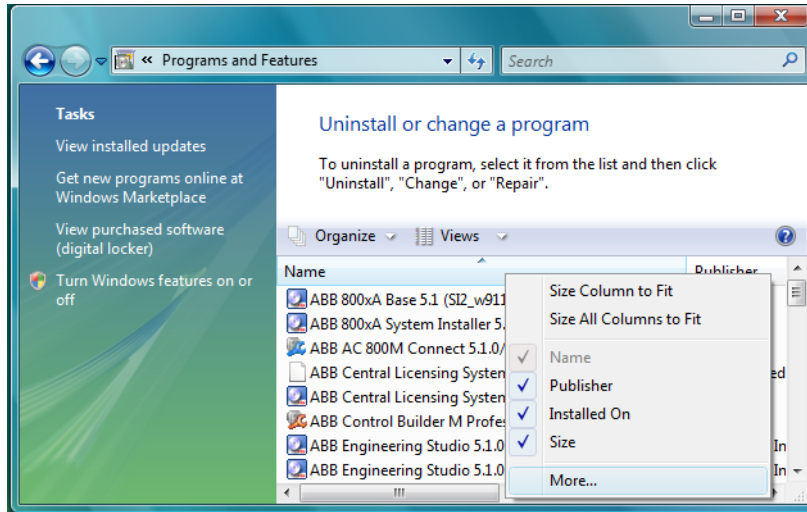

Figure 1. Context Menu to Access More Information
2. Select **More...**, see Figure 1.